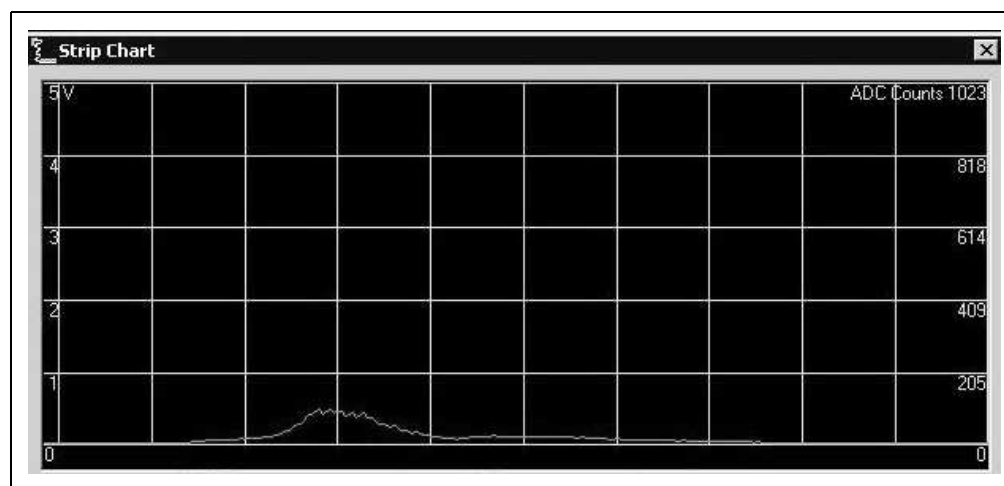

FIGURE 2-2: Strip Chart.
5. Move the photodiode close to a light source, such as a desk lamp, and verify that the strip-chart changes with light intensity (e.g., Figure 2-2).